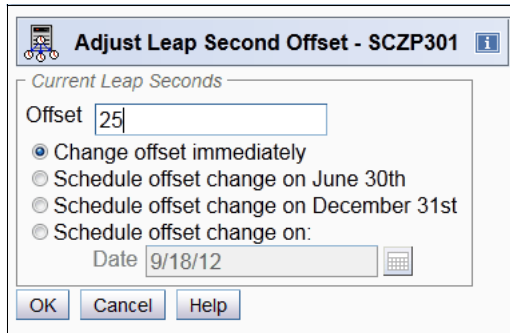

Figure 6-126 Adjust Leap Second Offset
3. Enter a new value in the Offset input box. Enter 24, as shown in Figure 6-126.